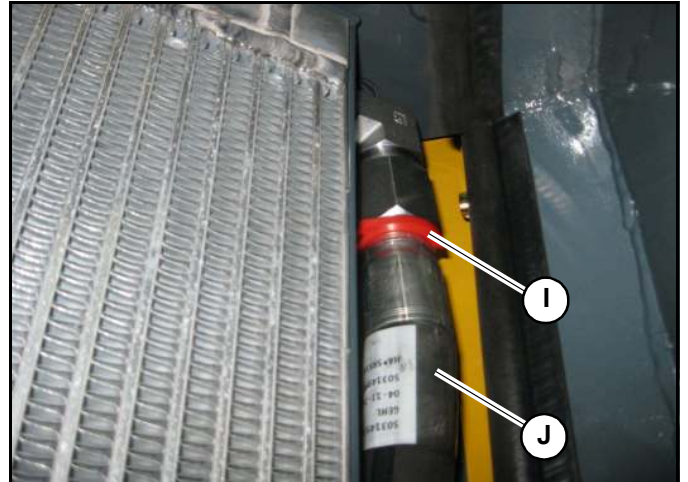

Fig. 23 – Upper Hydraulic Cooler Hose
9. Remove the upper hydraulic cooler hose quick connect clip, or remove the entire fitting (I, Fig. 23). Disconnect the hydraulic hose (J). Close all openings using caps and plugs.